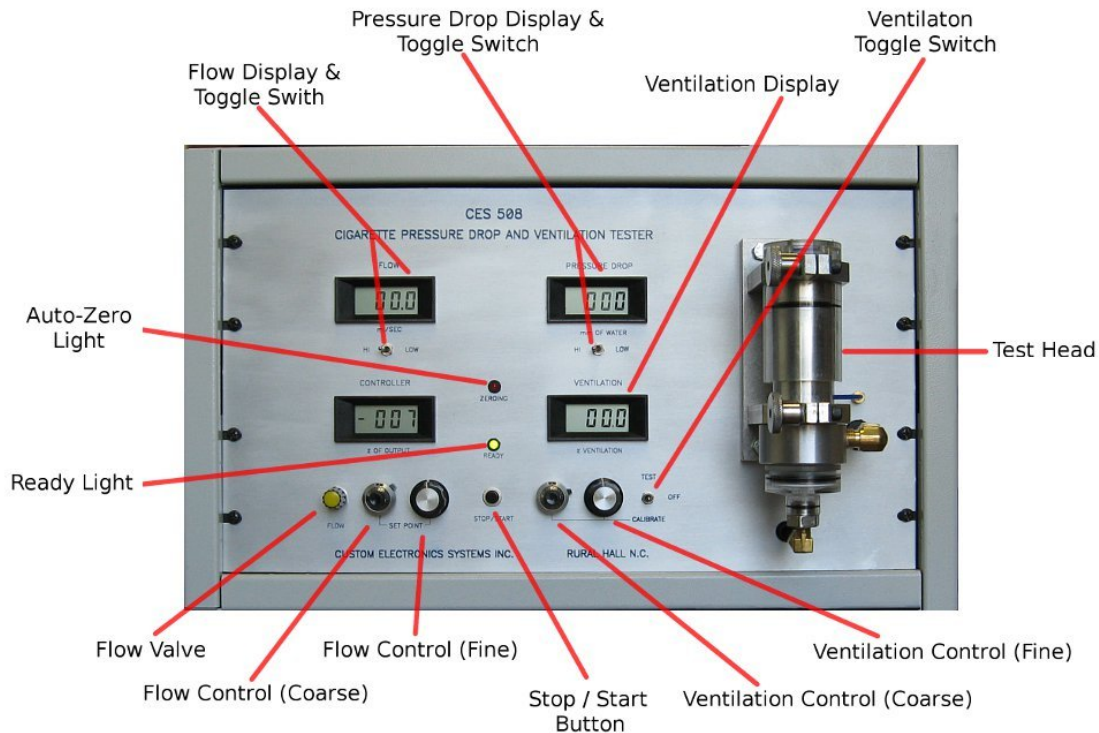

Figure 2
1. Set the Flow toggle switch (see Figure 2) to the desired setting (Low = 0-19.99 ml/s and Hi = 20.00-100.0 ml/s).
1. Place the test sample in the test head (Figure 2).
7. If you are measuring ventilation, set the Pressure Drop toggle switch (see Figure 2) to the desired setting (Low = 0-19.99 ml/s and Hi = 20.00-100.0 ml/s).